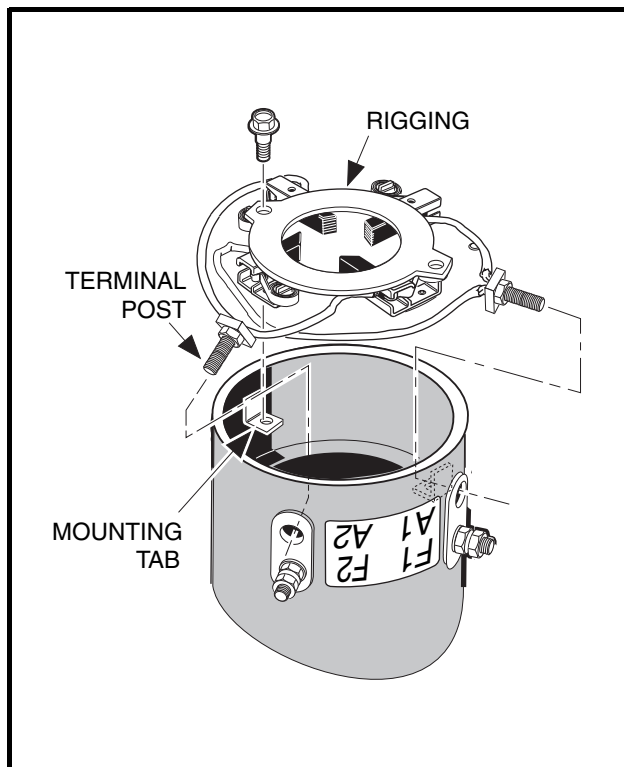

Figure 26-11 Brush Installation
- 2.1. With brush rigging facing down and held slightly above stator shell, insert the two terminal posts through insulators in stator shell wall at the A1 and A2 positions. Insert brush holder screws through the holes in the brush rigging and into the threaded holes in the mounting bracket (**Figure 26-11, Page 26-11**). Tighten the screws to 20 in-lb (2.3 N·m).